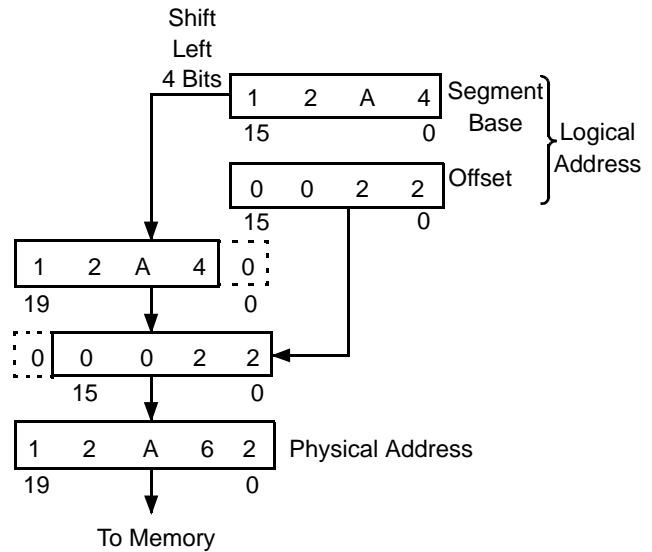

Figure 3. Two-Component Address
Memory is organized in sets of segments. Each segment is a linear contiguous sequence of 64K (216) 8-bit bytes. Memory is addressed using a two-component address that consists of a 16-bit segment value and a 16-bit offset. The 16-bit segment values are contained in one of four internal segment registers (CS, DS, SS, or ES). The physical address is calculated by shifting the segment value left by 4 bits and adding the 16-bit offset value to yield a 20-bit physical address (see Figure 3). This allows for a 1-Mbyte physical address size.